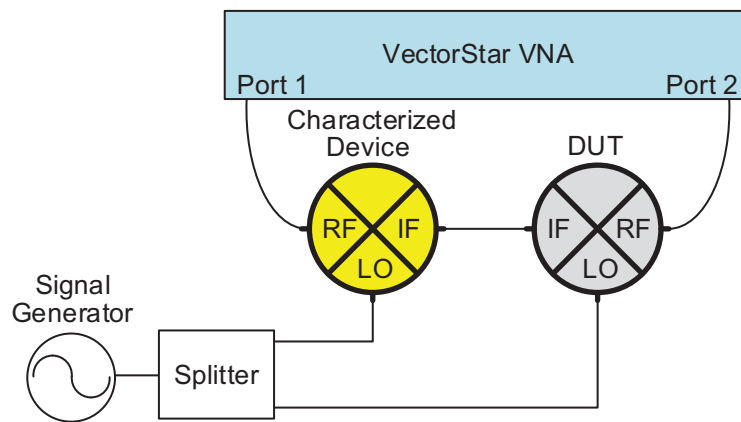

Figure 8: DUT Measurement Setup
2. Connect the DUT between one of the characterized devices (Device 1) and port 2 of the VectorStar as shown in Figure 8.